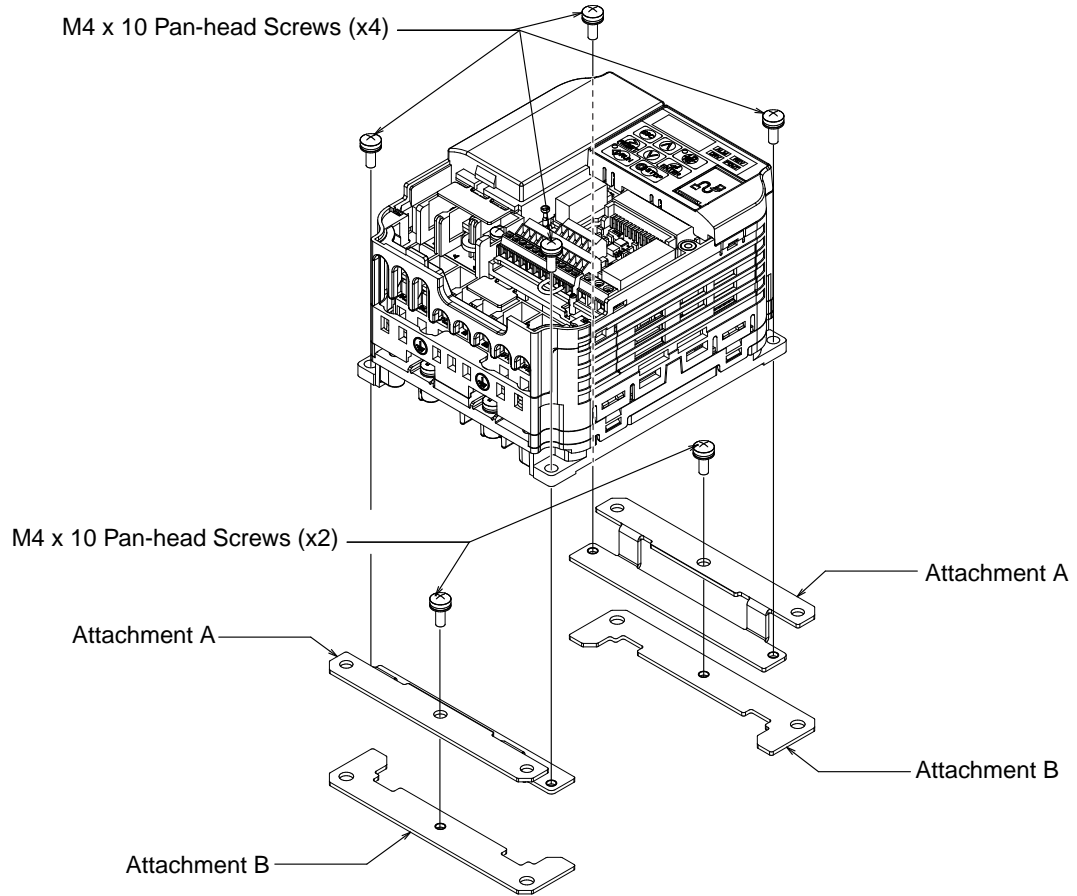

Figure 4 Procedure 2 Diagram (Example Model: CIMR-V□4□0001)
3. Mount Attachment B (2 units) to Attachment A with the associated M4×10 pan-head screws as shown in *Figure 4*.
- a. Install Attachment 1 and Attachment 2 to the mounting holes on the side of the heatsink using M5 x12 pan-head screws as shown in Figure 4.
Table 7 Installation Fasteners by Model for Figure 4